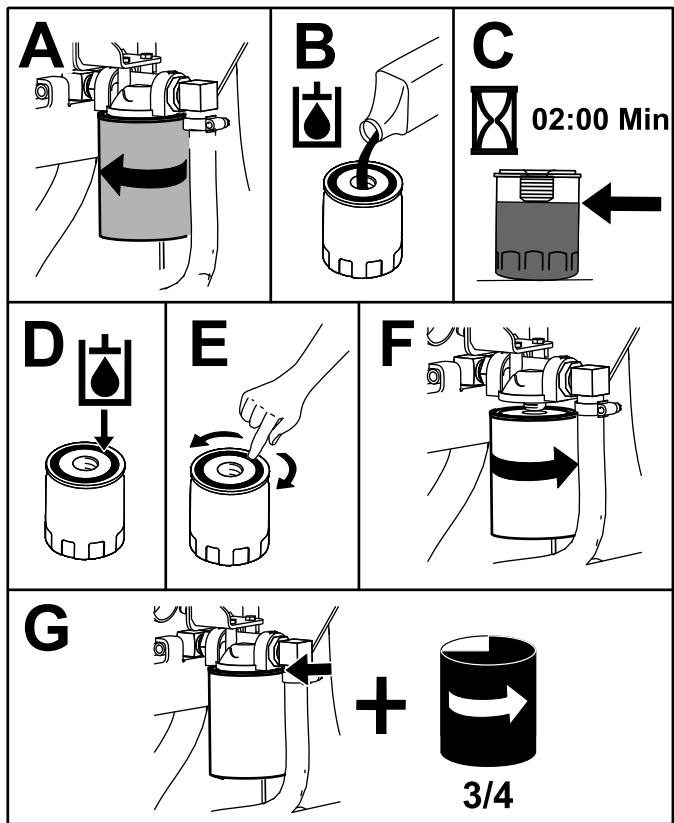

Figure 64
4. Place a drain pan under the filter and replace the filter (Figure 64).